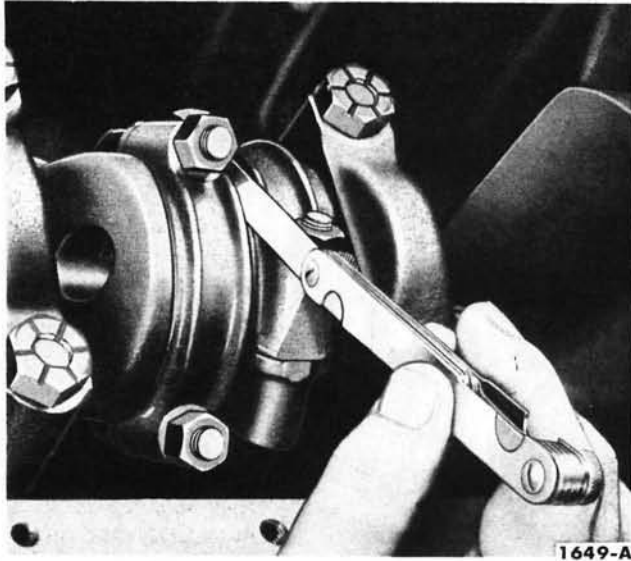

FIG. 49—Connecting Rod Side Clearance
5. After the piston and connecting rod assemblies have been installed, check the side clearance between the connecting rods on each crankshaft journal (Fig. 49).